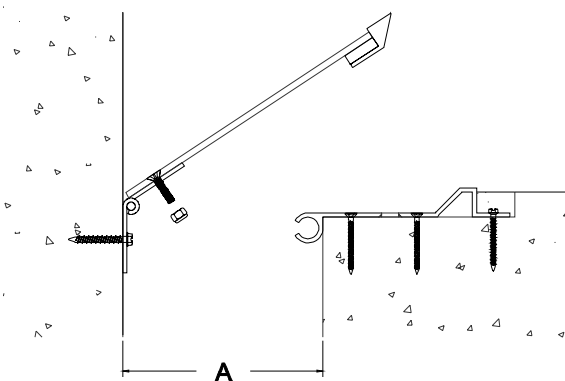

Figure 9
STEP 11. After the grout has cured, select the cover plate, the cover plate/hinge bolts and the cover plate/hinge nuts. Attach the cover plate to the hinge using the fasteners provided, bolts and nut, (see Figure 9).